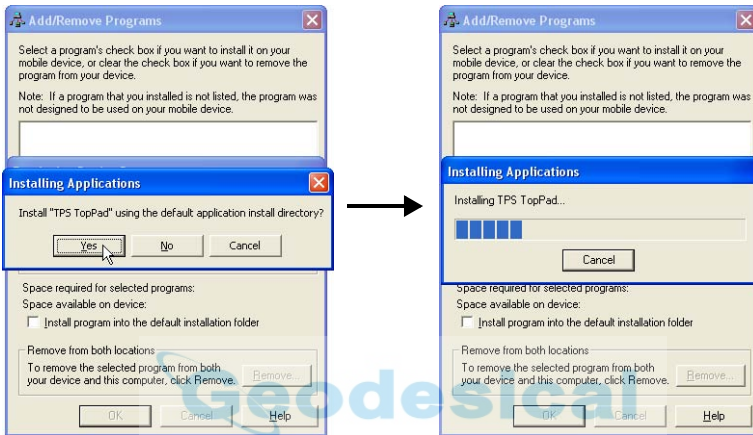

Figure 1-6. Install TopPAD into Default Directory
- With the computer and the controller connected, ActiveSync will start up and retrieve the controller's program. Click **Yes** to install TopPAD into the default directory on the controller (Figure 1-6). If TopPAD is already installed, ActiveSync will ask to uninstall it from the controller. When ActiveSync completes the uninstall process, double-click the TopPAD setup icon to have ActiveSync install the software on the controller.